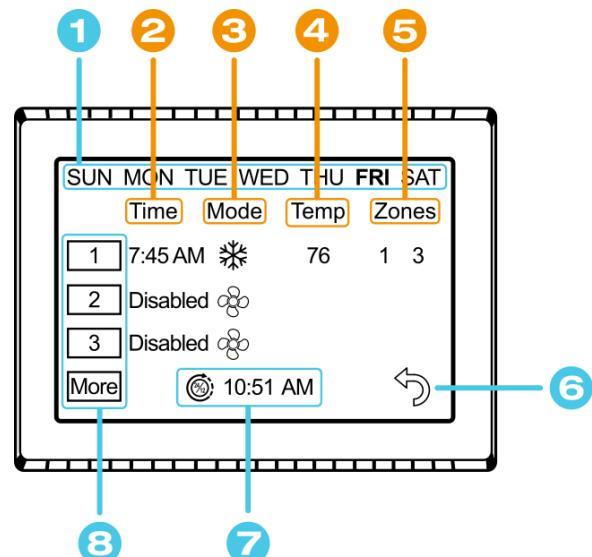
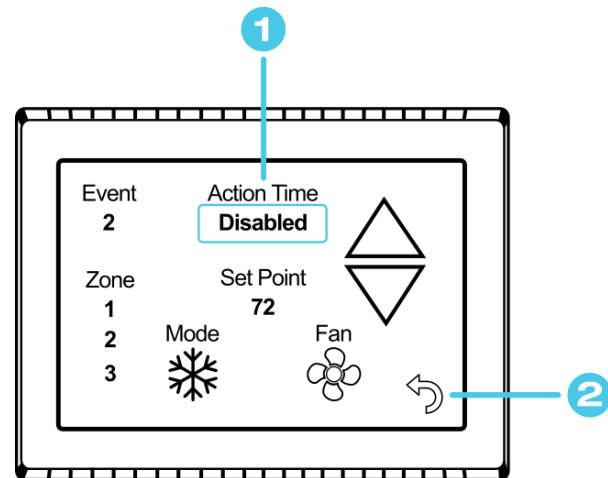
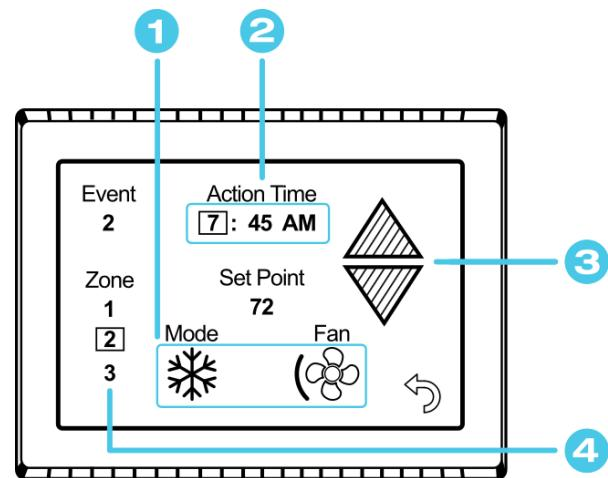

Figure 5 - Main Schedule Screen
Figure 6 - Schedule Edit Screen (Disabled Event)
Figure 7 - Schedule Edit Screen (Enabled Event)
The schedule supports 7 day per week scheduling of events. Events can include changes to the set point or mode of operation for one or more zones. Each numbered row is an event that can be configured. *Figure 5* shows the main schedule screen. Tap the “Schedule” button from the *Settings Screens* to enter.
Events are numbered 1 to 6 along the left side of the screen. Each row is a numbered event. Tap an event to edit it and advance to the schedule edit screen, shown in *Figure 6*. Tap “More” to see events 4, 5, and 6.
Figure 6 shows the edit screen when an event is tapped as shown in (8) Scheduled Events of *Figure 5 - Main Schedule Screen*. The event time on the main schedule screen and Action Time in the edit schedule screen will show disabled until a time is set. Tap “Disabled” (1) at the top of the screen to show a gray box around the Action Time to select it. The up and down arrows change to full color once a selection is made. Use the arrows to make a change to what is selected. Use the back arrow (2) to save any changes and leave the screen.
Figure 7 shows the schedule edit screen once a valid time is set for the event.
1. Tap the edit schedule button as described in the Schedule – Edit, Enable or Disable section in settings to enter the main schedule screen, shown by *Figure 5*.
2. Ensure that a valid (7) System Time is shown. Tap the day you want to set up a schedule for, then the event you want to edit, all shown by *Figure 5*. Tapping the event will take you to the edit schedule screen, shown by *Figure 6* and *Figure 7*.
5. Tap the back button once again to return to the settings screen. Activate the schedule by pressing the schedule button with the “Enabled/Disabled” subtext as described in the Schedule – Edit, Enable or Disable section in settings. When enabled, it may also be noted on the (11) Info Screen, under the Main Screen.